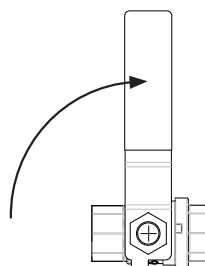

Figure 52: Supply valve closed
2. Located on the TIREMAAX controller, **turn** the Supply valve to the closed position (Figure 52).
3. **Locate** controller on the trailer. **Ensure** supply valve is in closed position. Refer to Figure 52 on page 48.